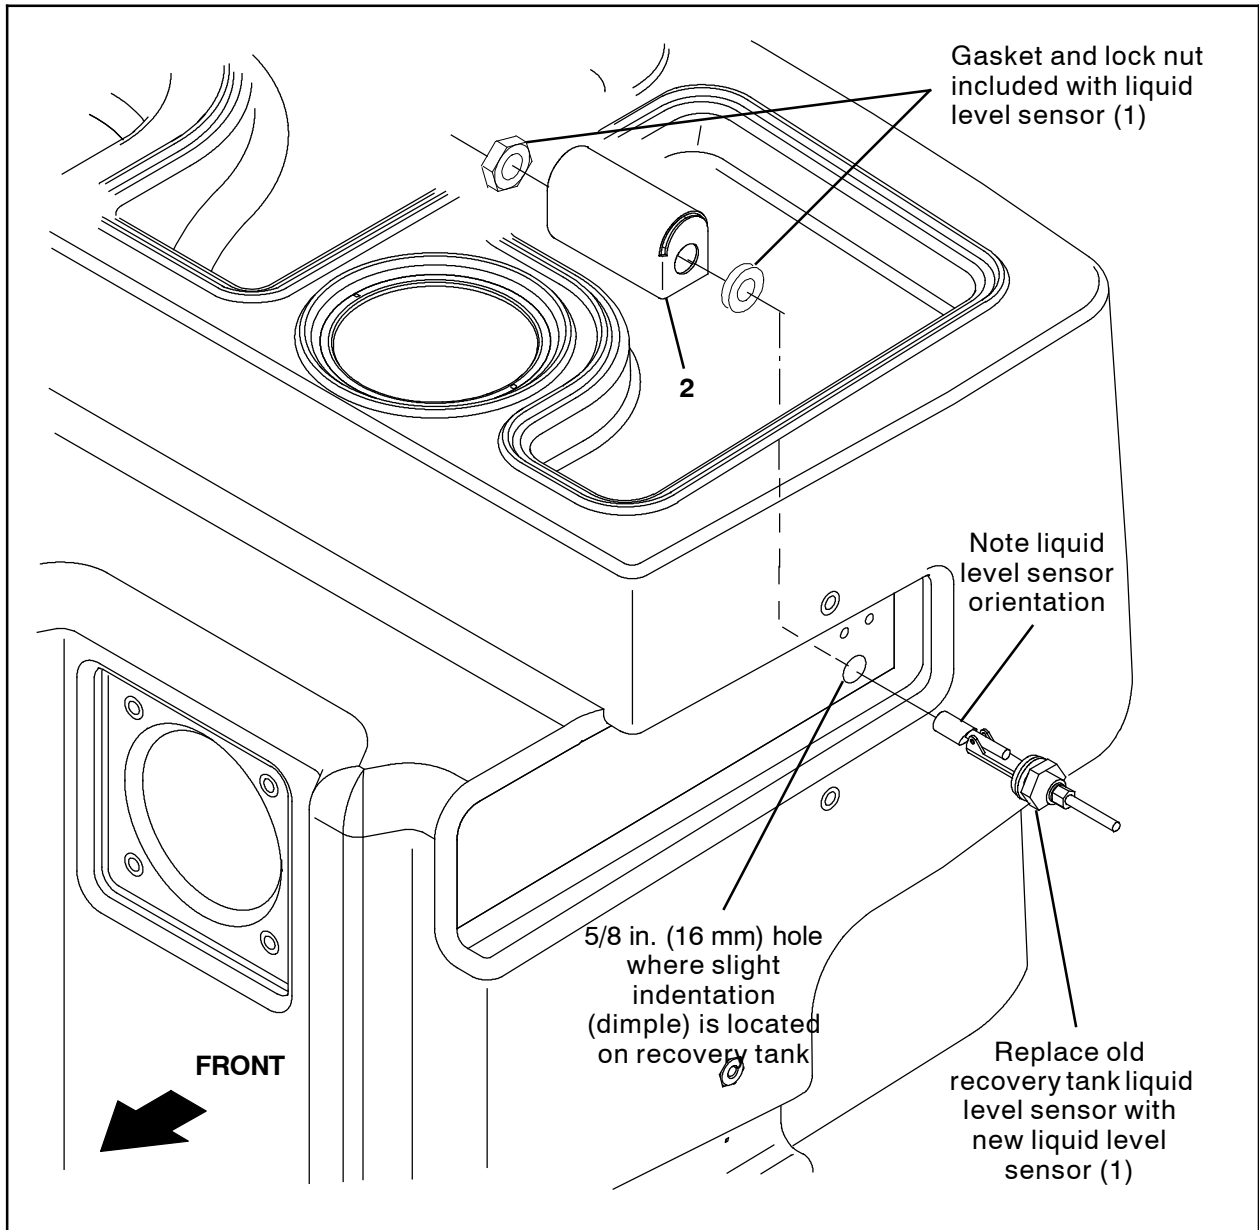

FIG. 1
3. Drill a 5/8 in. (16 mm) hole into the side of the recovery tank where the slight indentation (dimple) is located. (Fig. 1)
4. Remove the lock nut and gasket from the new liquid level sensor (1).
5. Route the main wire harness liquid level sensor to where new liquid sensor (1) will be installed and connect the main harness to the new liquid level sensor.
6. Use the lock nut and gasket to install the liquid level sensor (1) and float switch protector bracket (2) into the recovery tank. (Fig. 1)
*NOTE: Position the liquid level sensor so the narrow end of the float mechanism is oriented as shown in Fig. 1.*
7. Test the machine. Observe the area where the new liquid level sensor (1) was installed for leaks. Ensure there is an alert when the recovery tank is full. The liquid level sensor is functioning correctly when there is a recovery tank full alert when the liquid level in the tank reaches the sensor.